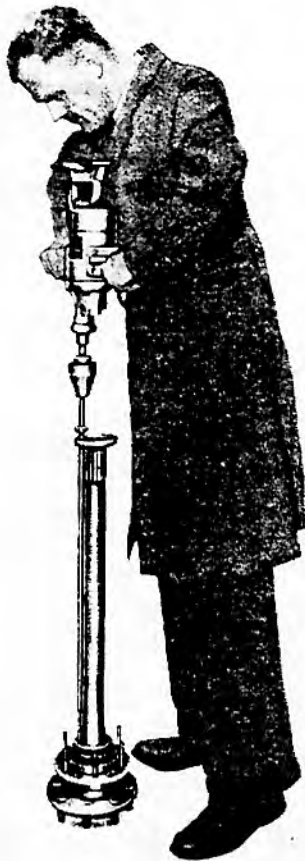

FIG. 3 DRILLING AXLE SHAFT BEARING COLLAR
2. Using Service Tool MF.26D with adaptor MF.26D-2 as shown in Fig. 3, drill axle shaft bearing collar. This should loosen collar sufficiently to allow removal, otherwise carefully split with cold chisel.